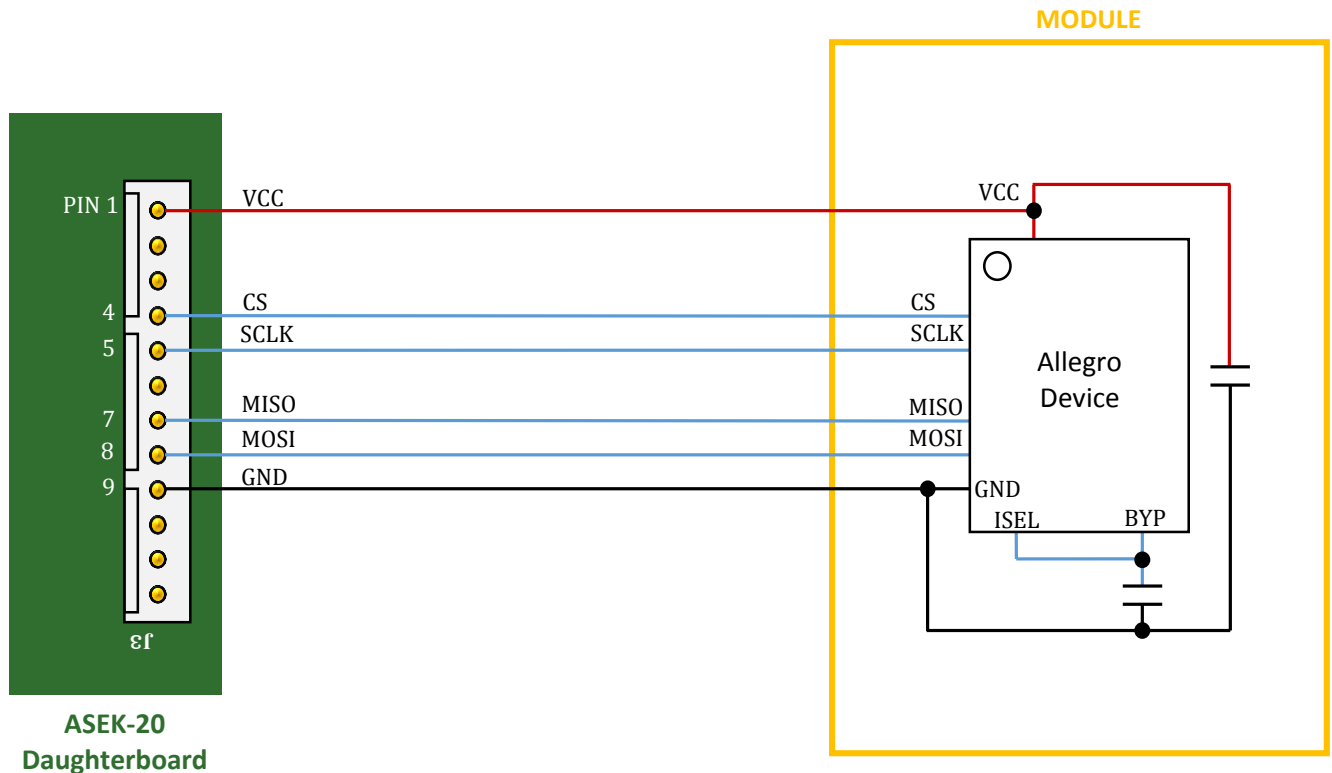

Figure 5. A1335 Daughterboard J3 Header Wiring Diagram (SPI Mode)
2. Using a ribbon cable or individual wires, connect the numbered pins on the header to the corresponding pins in the single-die sensor module. A wiring diagram for SPI communication is shown in Figure 5 below (see appendix for I²C and Manchester interfacing)